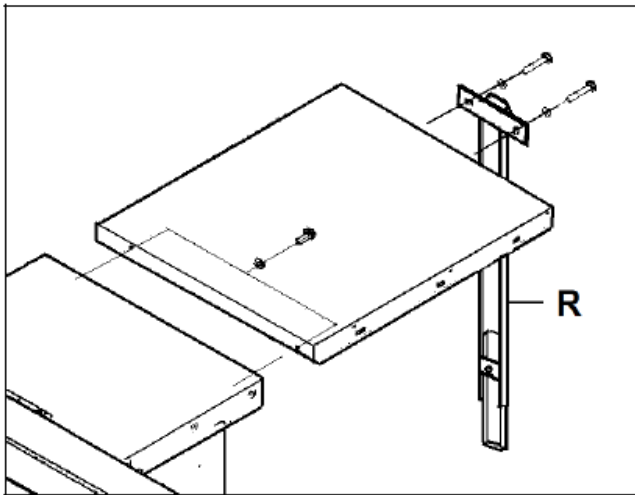

Fig 7
**Mounting Right Extension Table** Attach right extension table to the machine table and put surfaces in level. Fig 7